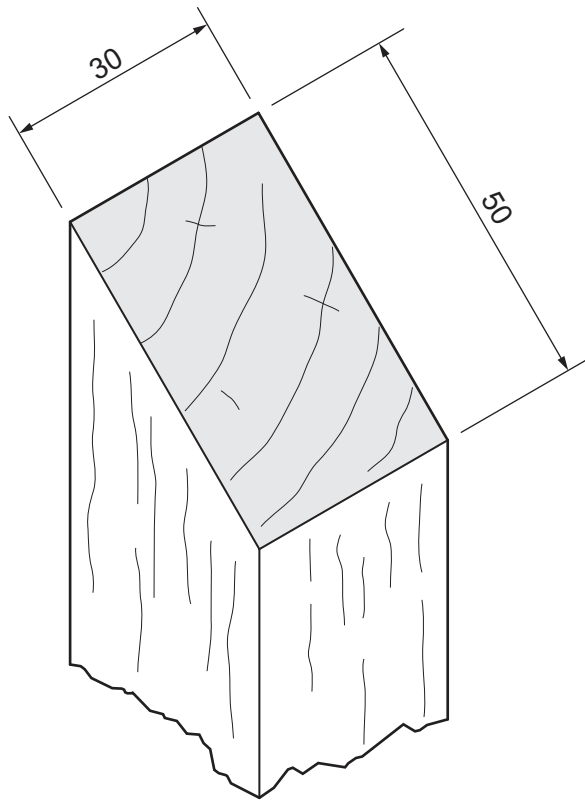

Figure 11.3
- (c) Figure 11.3 shows the end of the column that will be joined to the platform using a dowel joint.